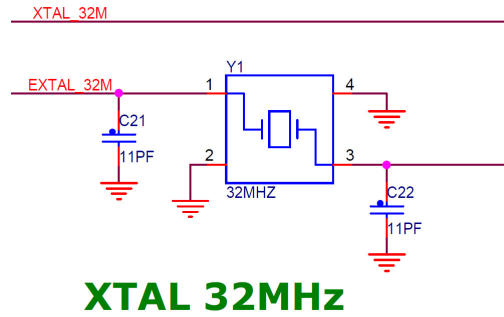

Figure 7. FRDM-KW24D512 platform's 32 MHz reference oscillator circuit
- 32 MHz Reference Oscillator: Figure 7 shows the external 32 MHz external crystal Y1. This mounted crystal must meet the specifications outlined in the AN3251 application note (AN3251). The IEEE Std. 802.15.4 requires that the frequency be accurate to less than ± 40 ppm.